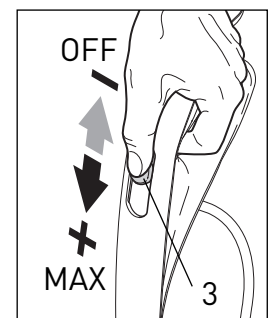

Figure 5
4. Slide the On/OFF switch (3) downward toward the MAX position - see figure 5.
Operating the Power Head - Figures 5, 6, 7 & 11
C. You may adjust the suction control with the suction control slider (3, figure 5) as you vacuum different surfaces or when using the accessory tools. For optimal cleaning and brushing, operate the machine at the maximum suction power setting and push the power head slowly over the carpet.
To change a *floor tool* or *power head*, switch off the power and unplug the vacuum. Press the tool release button (14) and pull the vacuum out of the swivel neck (20). Insert the vacuum into the new tool and push down gently until it snaps into place. Plug the vacuum in and switch the power on. You may adjust the suction control with the suction control slider (3, figure 5) as you vacuum while using the power head or when using the accessory or floor tools.